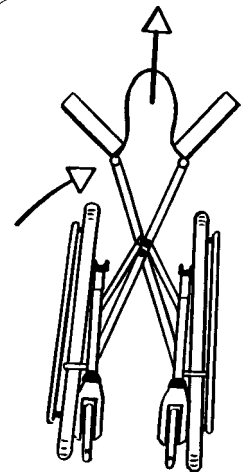

Figure 3
- 3 Standing to the side of the wheelchair place each hand under the front and back of the seat fabric. Lift upwards sharply to ensure the wheelchair fully folds (see FIG 3).